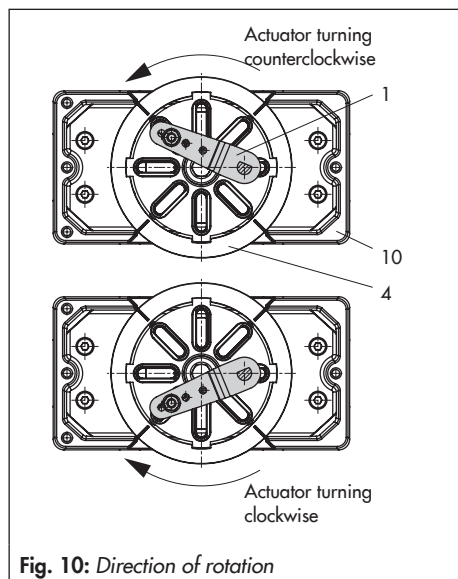

Fig. 10: Direction of rotation
1. Mount the housing (10) onto the rotary actuator. In case of VDI/VDE attachment, place spacers (11) underneath, if necessary.
2. For **SAMSON Type 3278 and VETEC S160 Rotary Actuators**, fasten the adapter (5) onto the free end of the shaft. For VETEC R Actuator, place on the adapter (5.1). Place adapter (3) onto **Type 3278, VETEC S160 and VETEC R Actuators**. For **VDI/VDE version**, this step depends on the actuator size.
4. Fasten coupling wheel (4) on the slotted actuator shaft or adapter (3) using screw (4.1) and disk spring (4.2).
5. Unscrew the standard follower pin (2) from the positioner's M lever (1). Attach the follower pin (\varnothing 5 mm) included in the mounting kit to pin position 90° .
6. Mount connecting plate (6) for required G $\frac{1}{4}$ connecting thread or pressure gauge bracket (7) with pressure gauges on the positioner, making sure the two seals (6.1) are seated properly. Double-acting springless rotary actuators require the use of a reversing amplifier on the connection side of the positioner housing (see section 5.8).
8. Place positioner on housing (10) and screw it tight. Taking the actuator's direction of rotation into account, adjust lever (1) so that it engages in the correct slot with its follower pin (Fig. 10).